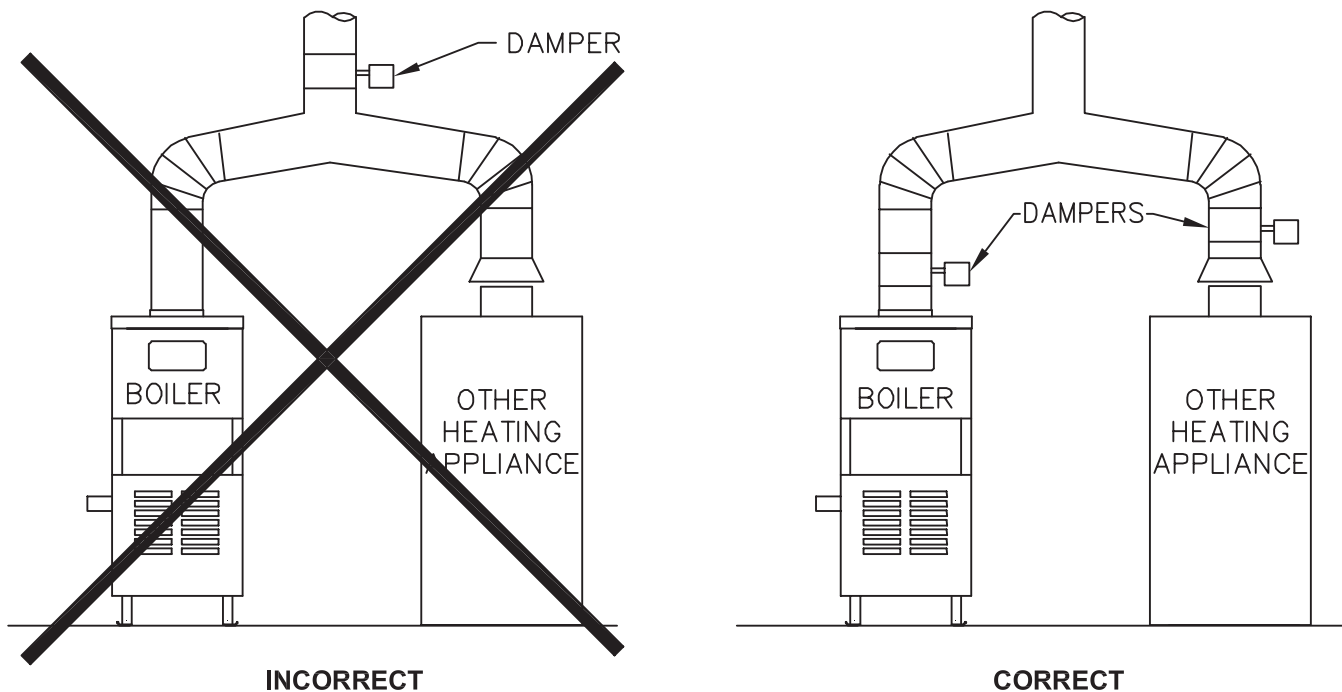

Figure 4.1: Venting Multiple Appliances
1. Do not use one vent damper to control two or more heating appliances. See Figure 4.1.